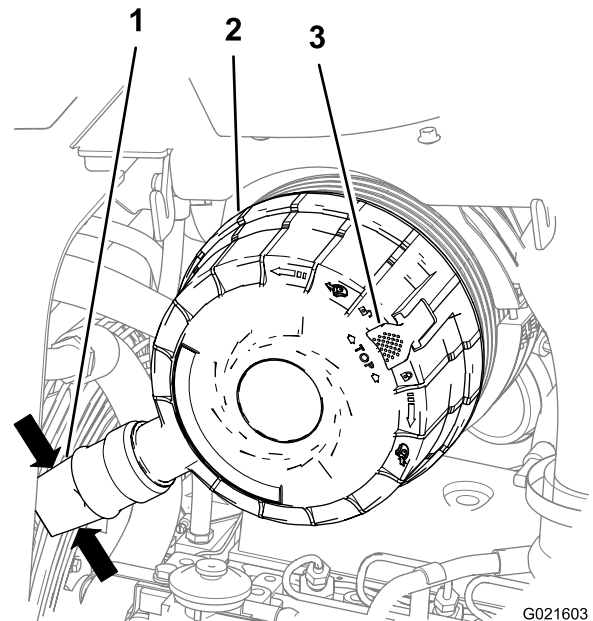

Figure 116
3. Squeeze the sides of the dust valve on the air-cleaner cover to release any collected water, dust, or dirt from the valve. (Figure 116).
5. Pull the latch for the air-cleaner cover outward (Figure 116).
5. Push the latch on the air cleaner filter cover inward until it is fully seated (Figure 116).